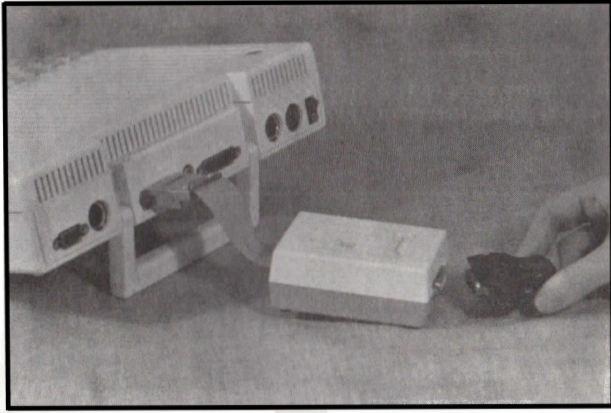

Figure 3. Installation of the cable from the monitor to the RGB Interface box.
4. Attach the cable from the monitor to the connector at the opposite end of the RGB interface box as shown in Figure 3.